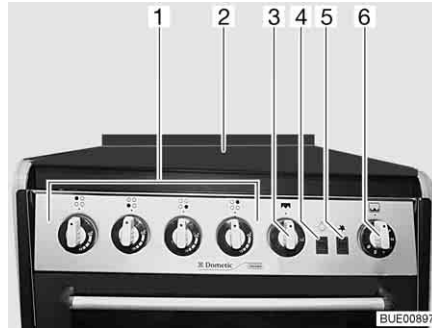

Fig. 190 Gas cooker with oven and grill
- Open the gas cooker lid (Fig. 190,2).
- Turn the control knob (Fig. 190,1) on the burner you wish to use to the ignition position (large flame).
- Press the lighting knob (Fig. 190,5) until there is a flame.
- ▷ The switch (Fig. 190,4) is used to turn the oven light on and off.
- Lightly press the control knob (Fig. 190,3) and turn to lighting position (large flame).
- Press the control knob (Fig. 190,6) slightly and turn it to an ignition position between 1 and 6.